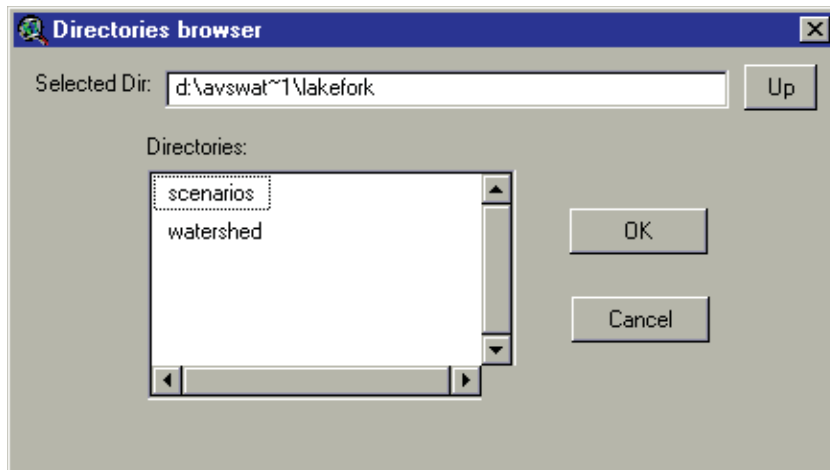

Figure 15.5
- b. A directory browser will appear with the directory listed in the text box visible (Figure 15.5).